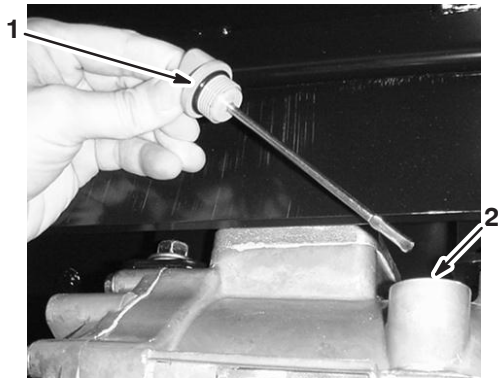

Figure 10
2. Remove the transaxle dipstick and wipe it with a clean rag (Fig. 10).